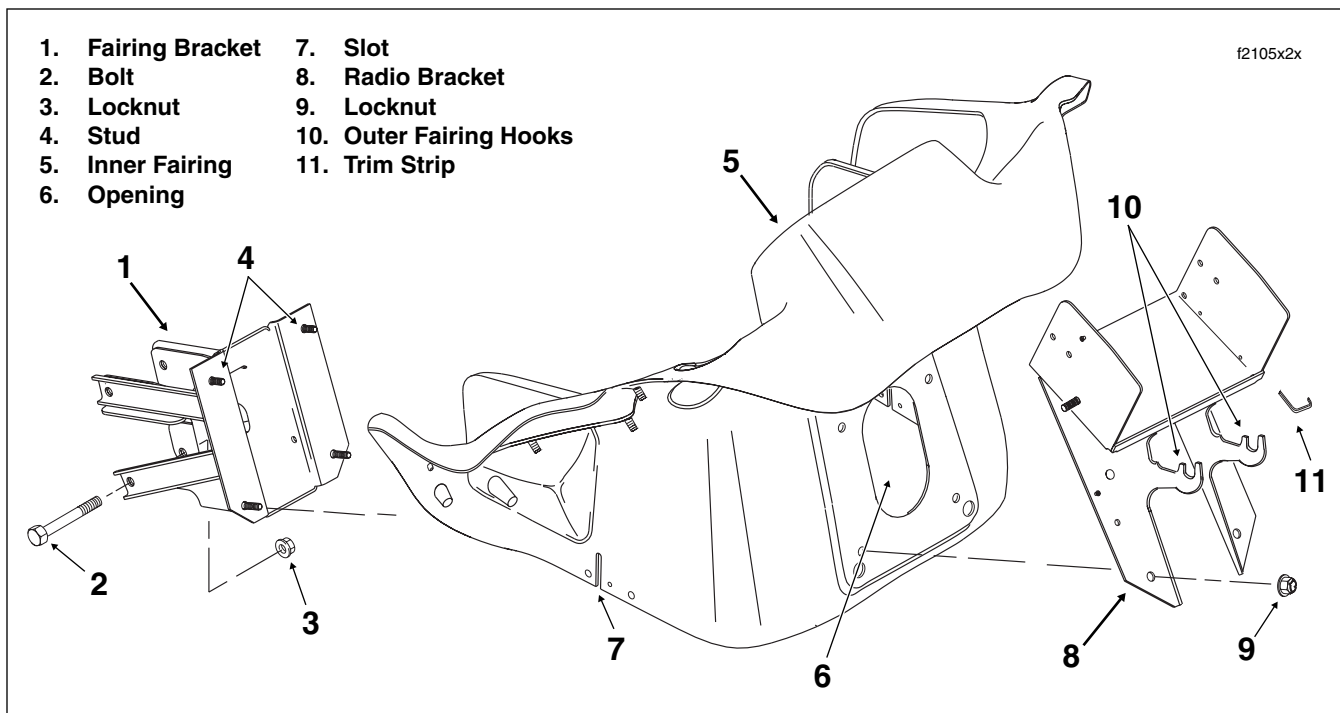

Figure 2-181. Inner Fairing Assembly
15. Remove four locknuts to release radio bracket and inner fairing from studs of fairing bracket. See Figure 2-181.
8. Place inner fairing over four fairing bracket studs while feeding end of harness bundle through opening beneath radio. See Figure 2-181. Verify that sides of inner fairing are positioned outboard of both fairing supports (on engine guards).